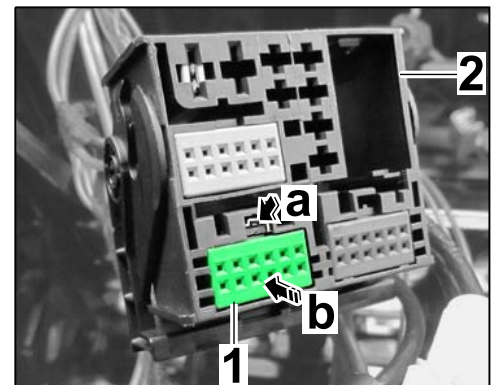

Figure 19
- 4.4.2 Release green plug socket ⇒ *Figure 19-1* (⇒ *Figure 19-a*) and press it out of the PCM central connector ⇒ *Figure 19-2* (⇒ *Figure 19-b*).